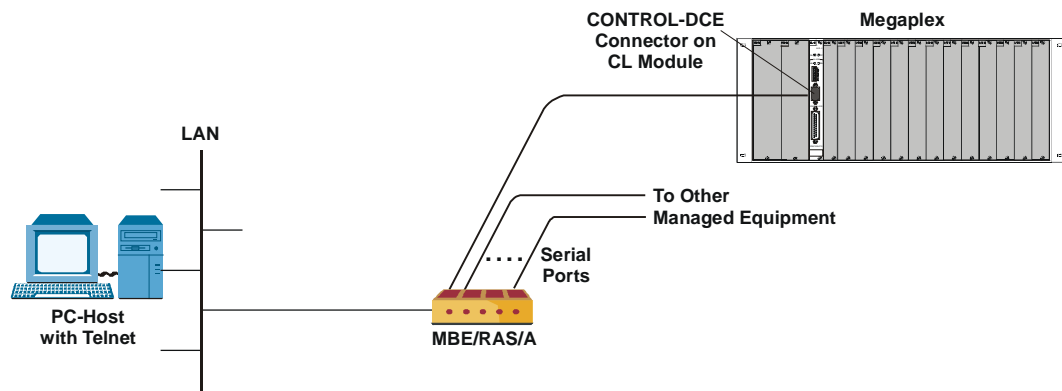

Figure 9-30. Connection of PC Host Attached to LAN to Megaplex Serial Supervisory Port
*Figure 9-30* shows a typical connection of a PC host attached to an Ethernet LAN to the Megaplex serial supervisory port, using the multiple serial port version of the MBE, MBE/RAS/A. Note that the connection between the LAN and the MBE/RAS/A could also be made through a WAN.